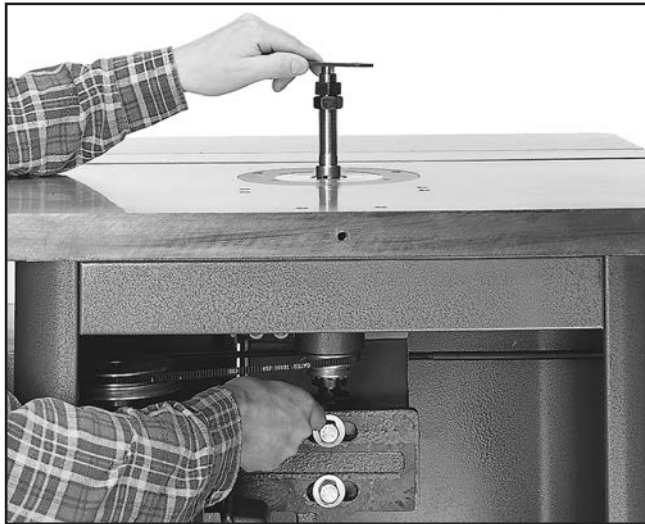

Figure 17. Tightening the drawbar nut.
5. Place the spindle wrench on top of the spindle, so it fits over the head of the spindle. Place a 17mm wrench on the drawbar nut (see Figure 17).